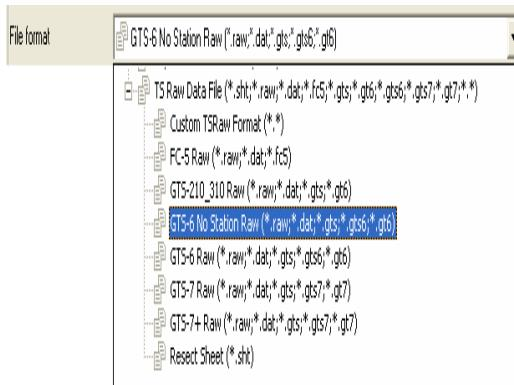

Figure 3-47. File Format List
- the File format (Figure 3-47).